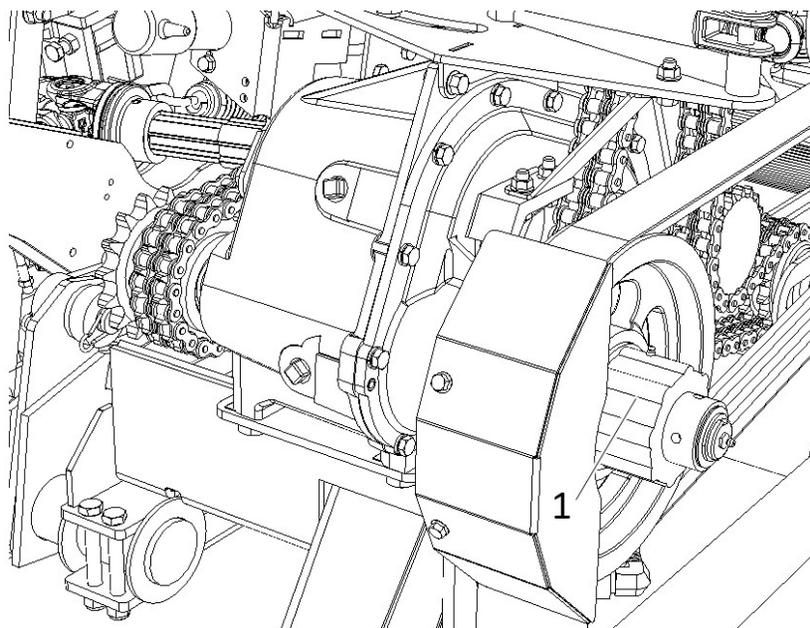

Figure 86 F-N-R transmission overload clutch
In the event of plugging or jamming of the header or the feed rolls, the overload protection clutch on the F-R transmission (FIGURE 86, item 1) will slip and emit a warning sound. Similarly, a blockage can trigger a slippage of the header overload clutch (friction or radial ball clutch) and cut the power transmission.